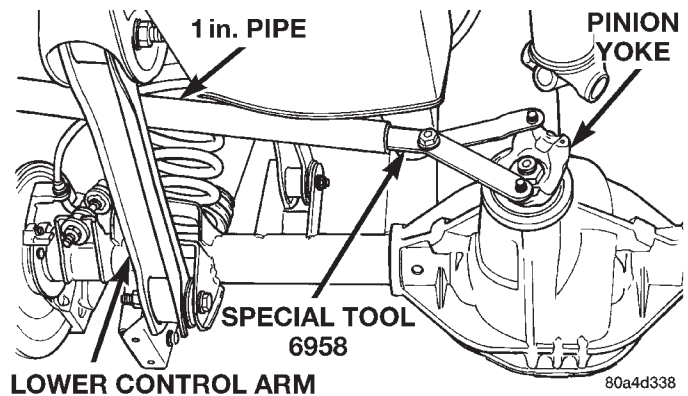

Fig. 27 Pinion Yoke Holder—Typical
- (1) Remove differential assembly from axle housing.
- (2) Mark pinion yoke and propeller shaft for installation alignment.
- (3) Disconnect propeller shaft from pinion yoke. Using suitable wire, tie propeller shaft to underbody.
- (4) Using Holder 6958 to hold yoke, remove the pinion nut and washer (Fig. 27).